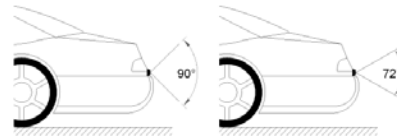

Fig.21
- ◆ When connected to ground, the yellow wire decreases the vertical angle of sensor by 20%. This should only be used if ground noise is detected after testing the system. Figure 21